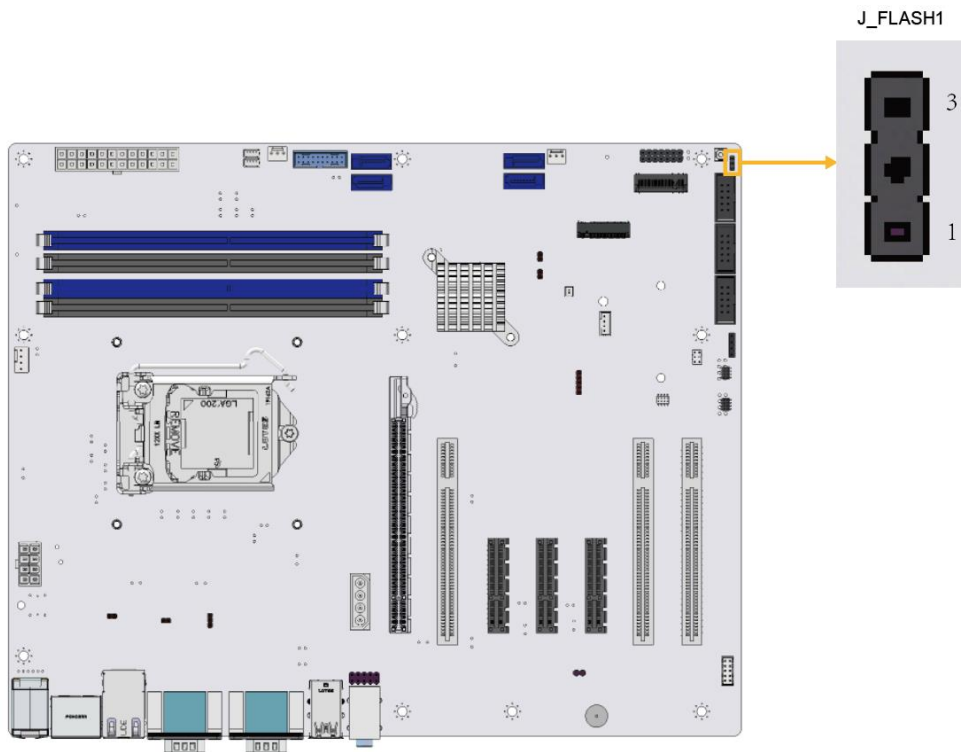

Figure 3-14: Flash Descriptor Security Override Jumper Location
- CN Location:** See **Figure 3-14**